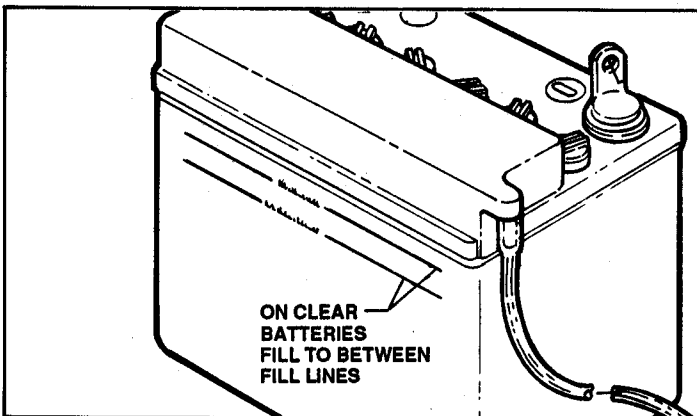

FIGURE 6.18
4. Wearing approved rubber gloves and face shield, fill each CELL of the BATTERY with 1.265 ± .05 specific gravity, battery grade electrolyte (acid). Fill each CELL to 3/16" above CELL PLATES or between full lines on clear batteries. See Figure 6.18.
5. After filling, allow the BATTERY to set for at least thirty (30) minutes. Check electrolyte (acid) level and refill CELLS to 3/16" above CELL PLATES if necessary. Refer to Figure 6.18.
6. After achieving proper fill level, SLOW CHARGE the battery at one (1) amp for ten (10) hours, or three (3) amp for four (4) hours.